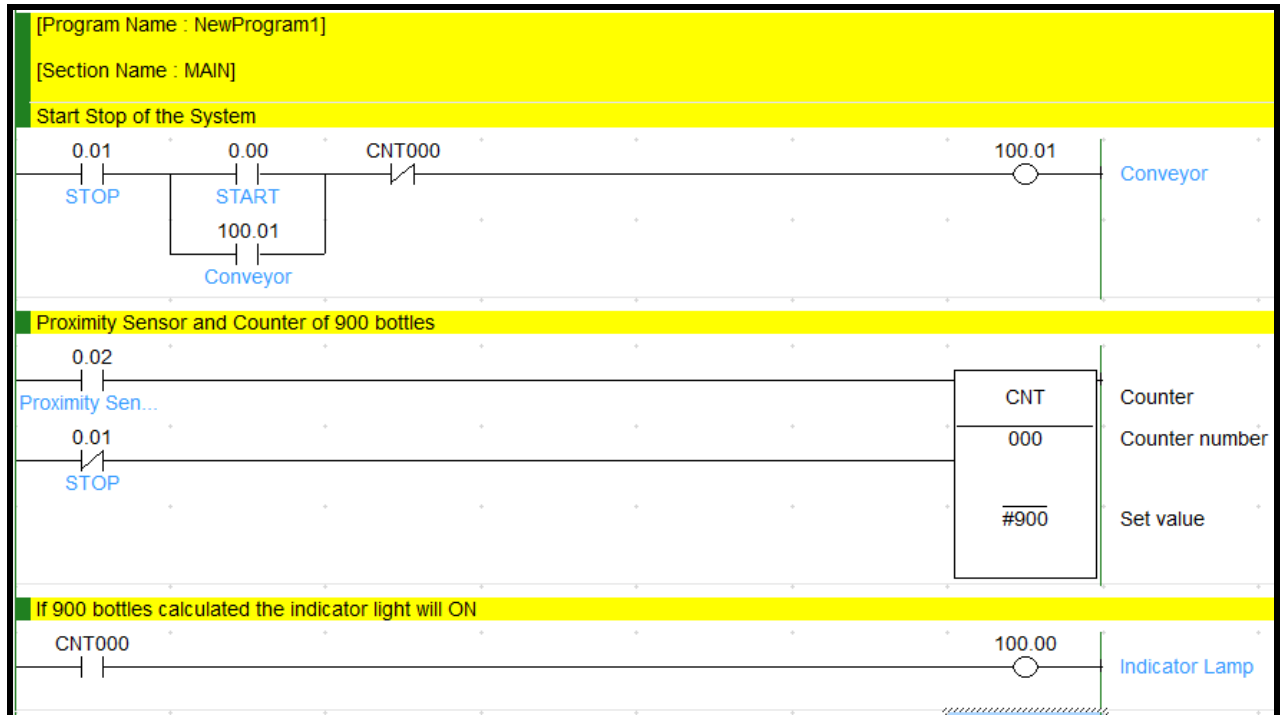

Figure 4: Ladder Diagram of the system using Counter
In **Figure 3**, a photoelectric sensor is installed in the middle of the conveyor. This sensor will calculate the amount of bottles passing through the conveyor. Initially an instruction called COUNTER (CNT) is used in the ladder program. For upgrading purposes, the counter needs to be replaced with an arithmetic instruction. The old ladder diagram is shown in **Figure 4**.
- (a) Convert the ladder diagram in **Figure 4** to Instruction List (4 marks)